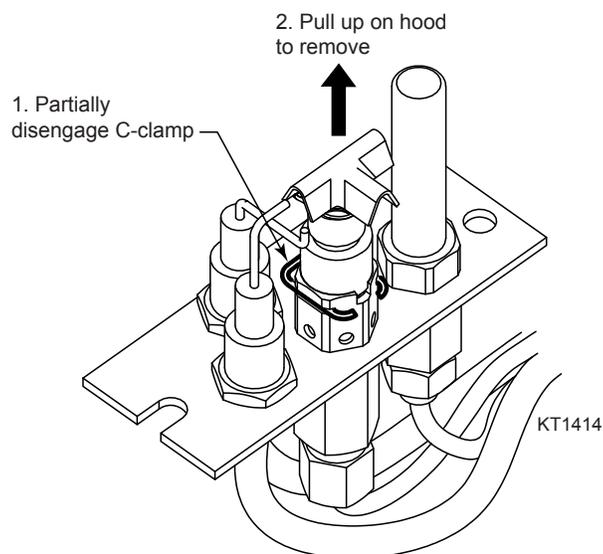

Figure 77
15. Remove the top of the pilot assembly by pulling back slightly on the C-clamp (*Figure 77*) and pulling straight up on the hood. Remove the pilot orifice using a flat-blade screwdriver and replace with new pilot orifice provided in kit.